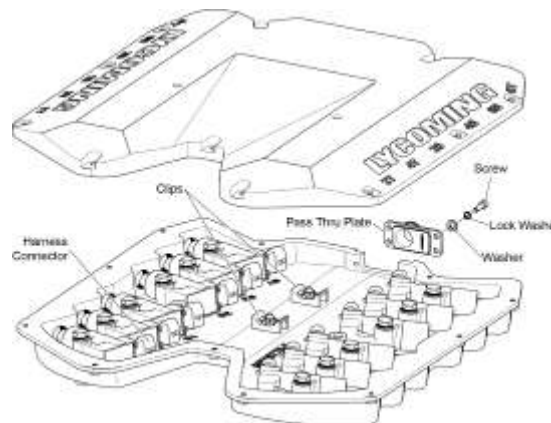

Figure 3
- G. Remove the four screws, lock washers, and washers from the coil box pass thru plate (Figure 3). Discard the lock washers.
- B. Lift the engine harness and pass thru plate (Figure 3) and put the lower half of the coil box on the mounting studs.